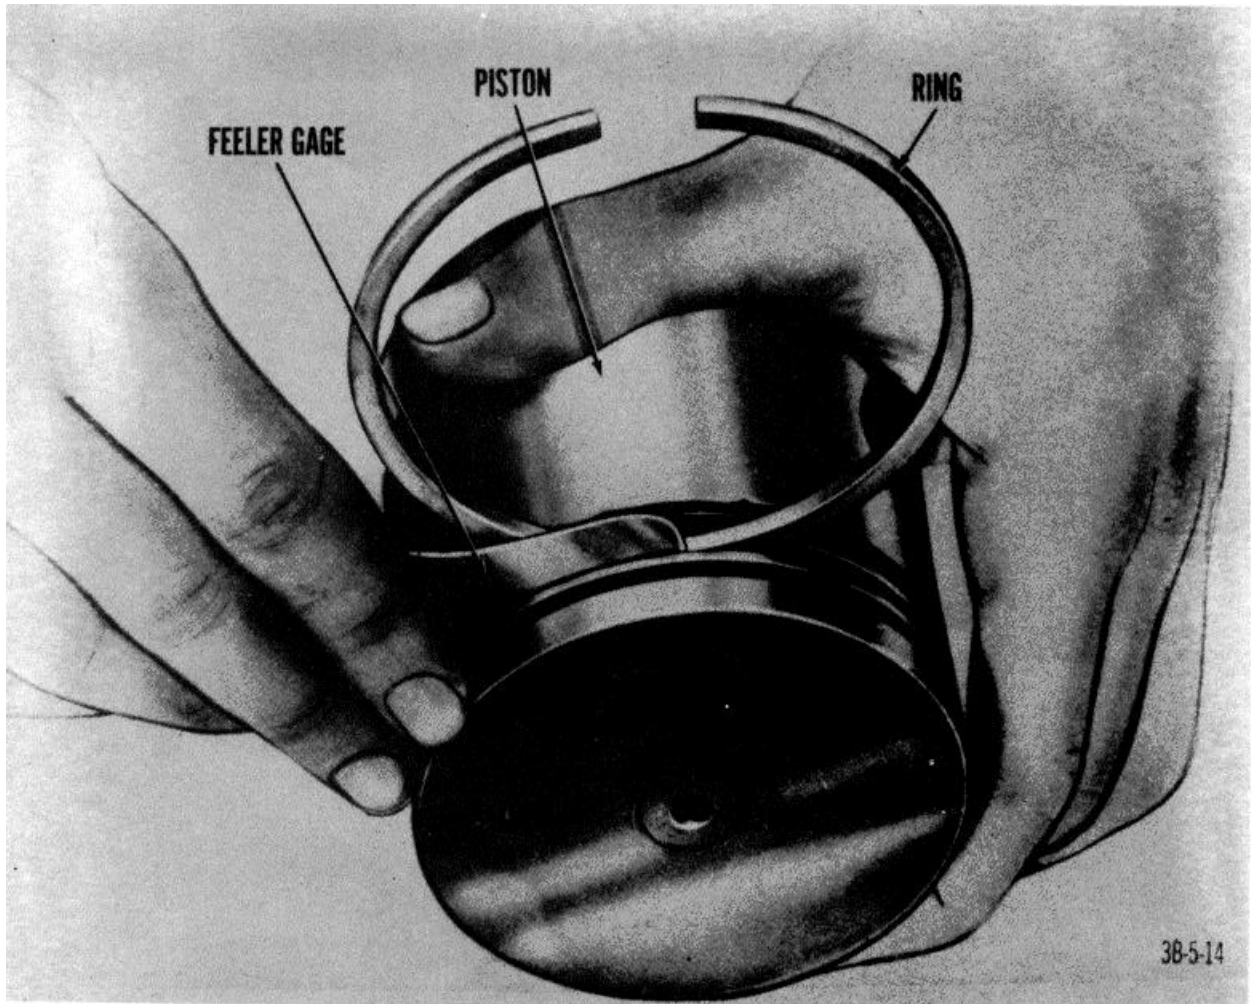

Figure 17. Checking piston ring side clearance.
- (3) Check rings for proper side clearance (par. 7 and fig. 17) and install them in proper groove on piston.